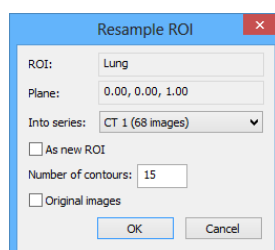

Figure 252 – Resample ROI dialog
2. Select the ROI to be resampled in the ROI list and click the **Resample...** button. The **Resample...** dialog is then displayed (see Figure 252).